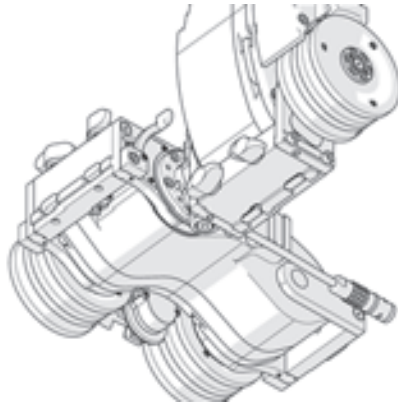
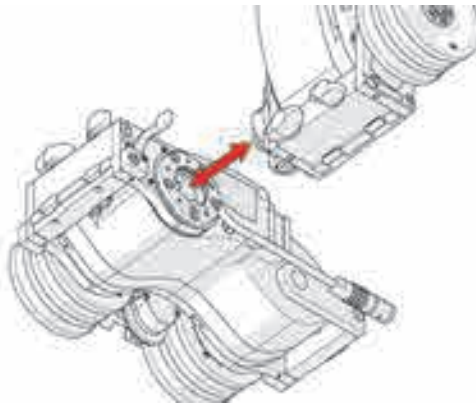

Figure 4-23 Rotate modules to 90°
Figure 4-24 Pull modules apart
2. Continue rotating the two modules until they are 90° perpendicular (see Figure 4-23 on page 108), and then gently pull the two modules apart (see Figure 4-24 on page 108).